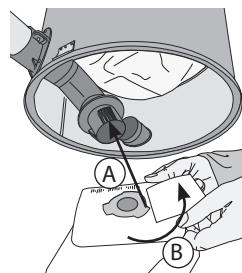

figure 17
4. Ensure adequate sealing by inserting bag as far as the retention ring (**figure 17-A**). Rotate bag 20° (**figure 17-B**) to ensure tabs on bag adaptor are no longer aligned with the slots in the bag collar.